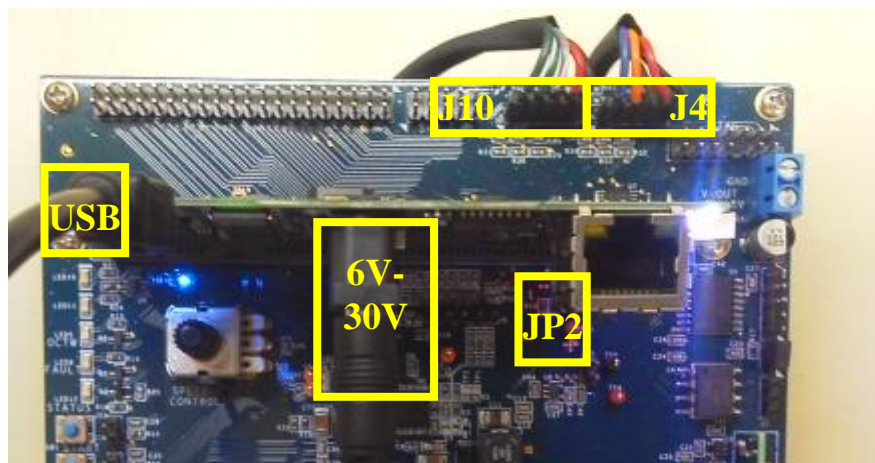

Figure 2 USB debugger port, CNCD Power, encoder and hall sensor feedback
2. Ensure that jumper JP2 is in place (as it is shipped from the factory). See Figure 2.
4. Connect the usb cable provided to your PC and directly to the TMS570LS12 controlCARD as shown in Figure 2..
5. Connect the 5 pin SIP connector labeled J4 to jumper J4 on the DRV8301 EVM as also shown in Figure 2. This is for the encoder feedback. Please note that pin one on this connector is indicated by a triangle on the board and should be connected to the **blue** wire in the SIP connector. If you receive a calibration result of 4000 (in the Demo GUI, for example) you may have this connector reversed on your board. If the GUI Encoder Fault LED is red, ensure that the motor encoder pins are properly connected to the DRV83xx board. To reset this fault disable and re-enable the Enable Motor GUI control and Calibrate Enable check box.